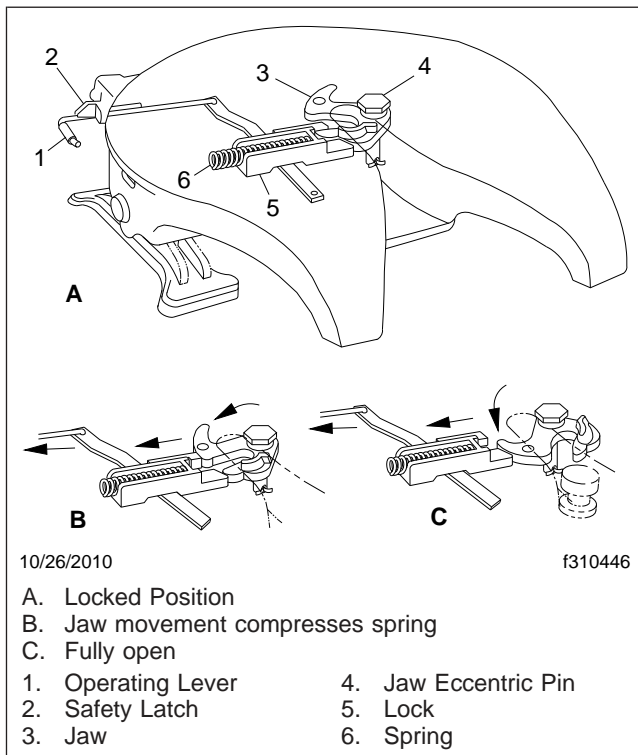

Fig. 10.10, ASF Simplex Series Kingpin Locking Mechanism Operation
The Simplex Series fifth wheel lock mechanism (Fig. 10.10) consists of a rotating jaw and a spring-actuated lock that grips the trailer kingpin. The jaw rotates on an eccentric pin during coupling and uncoupling operations. The spring-actuated lock holds the jaw in the locked position once kingpin lockup has occurred.
4. Position the tractor so that the center of the fifth wheel is in line with the trailer kingpin. The kingpin should be in a position to enter the throat of the locking mechanism. See **Fig. 10.10**. Adjust the trailer landing gear so that the lower front trailer edge contacts the top surface of the tilted fifth wheel plate, approximately 8 inches (20 cm) before the fifth wheel center.